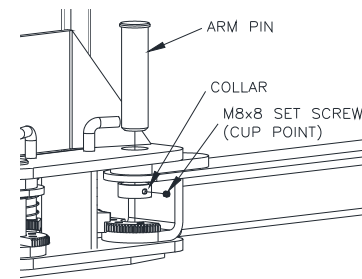

**Fig. 10 – Lock Cable Routing**
- 30) Secure Lock Release Cable at the top of each column extension as shown in Fig 10. Lock Release Cable should be routed on the opposite side of the Overhead Beam as the Idler Hose to prevent interference.